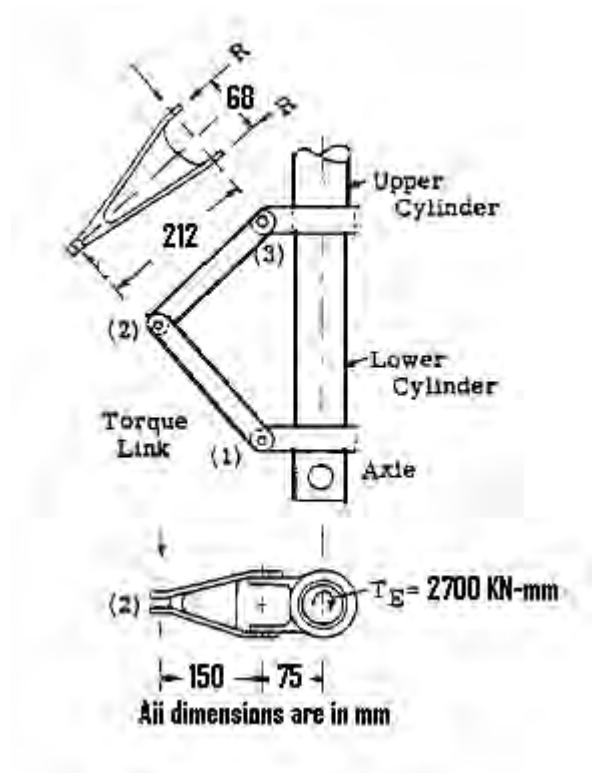

Figure 2:
2. Explain the construction, working procedure and need of a torque link in a landing gear. Find out the reaction at point 2 of torque link shown in Figure 2. Assume additional data if necessary. [16]